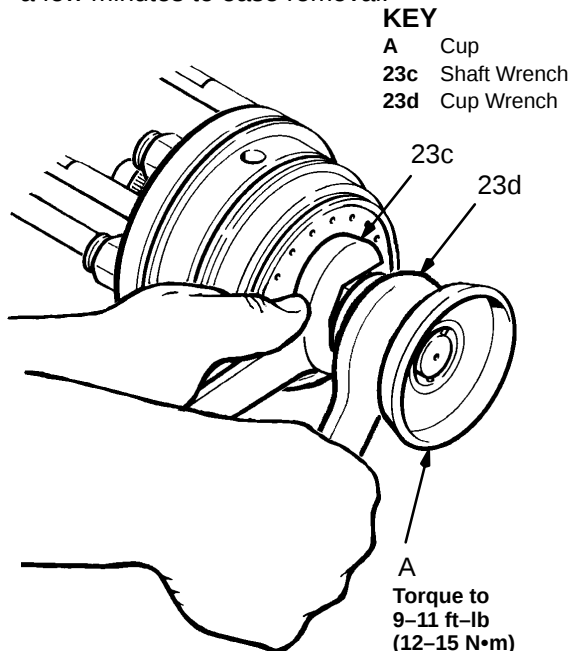

Fig 7
3. Hold the bearing assembly shaft with the wrench (23c), supplied, while removing the cup (A) with the cup wrench (23d), supplied. See Fig 7. Turn the cup *counterclockwise*. Set the cup onto a soft surface to help avoid scratching or nicking its surface.